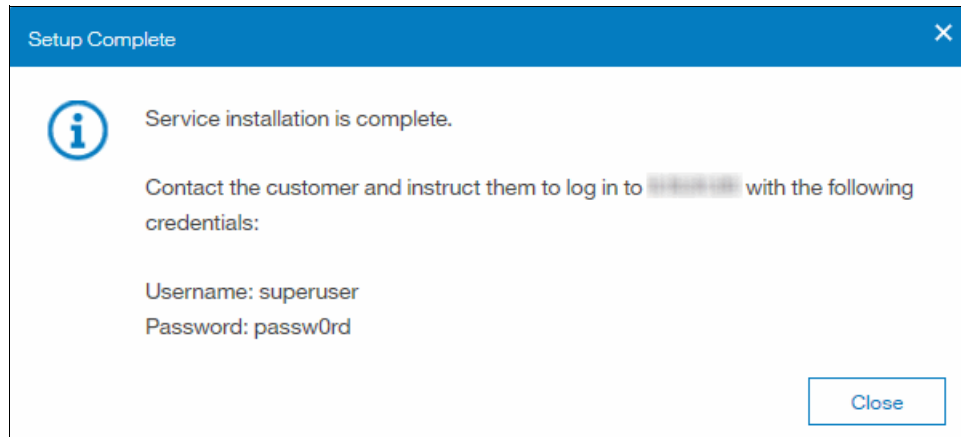

Figure 6-73 Setup Complete screen
30. The Setup Complete screen is displayed (Figure 6-73).